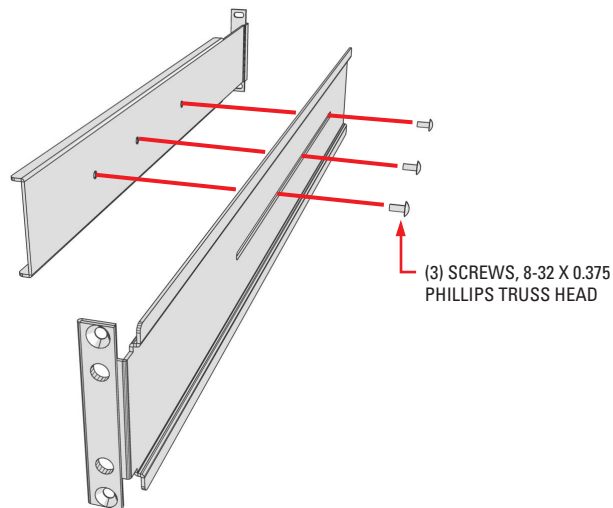

Figure 6. Assembling a Support Rail
3. Attach one front-mount rail (supplied) to one rear-mount rail (supplied). Make sure the rails are mounted back to back, as shown in Figure 6. Use three 8-32 x 0.375-inch Phillips truss head screws (supplied) in any of the available holes. Leave the screws loose; they will be tightened later in the installation.
8. Tighten the 8-32 x 0.375-inch Phillips truss head screws that were attached to the front- and rear-mount rails (refer to Figure 6 on page 11).